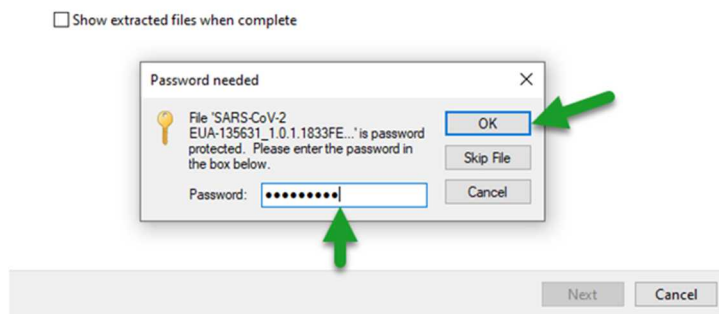

Figure 25. Password Window.
- d. Enter the provided password in the window when prompted and tap **<OK>**. (Figure 25)